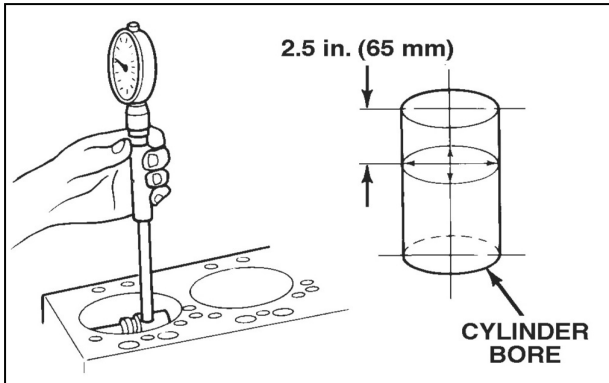

Figure 12-34 Measuring Cylinder Bore Diameter
Figures 12-34 and 12-35
- A. Cylinder bore diameter. Use a telescoping bore gage, located 65 mm (2.5 in.) below the top of the cylinder bore (figure 12-34).